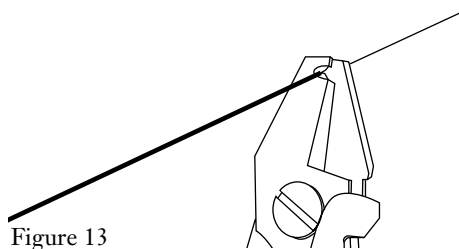

Figure 13
- Squeeze the tool shut and strip the fiber coating with a smooth, straight pull (Figure 13).